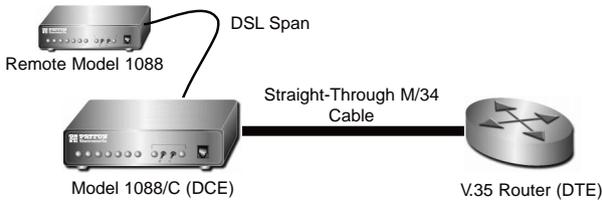

Figure 5. Connecting the Model 1088/C to V.35 Serial DTE
V.35 straight through cable (See Figure 5). Appendix C describes pin assignments and signal sources for the Model 1088/C V.35 interface. When purchasing or constructing an interface cable, please refer to the pin diagrams in Appendix C as a guide.